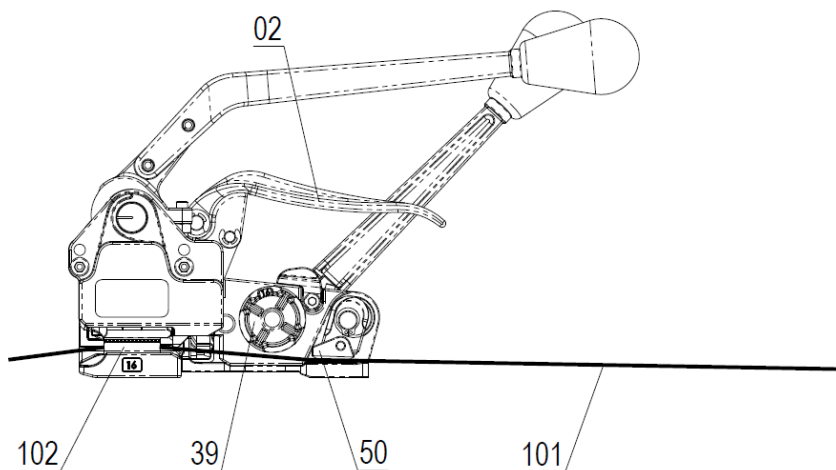

Fig. 3
2. Pull up on **Handle 02** to raise **Gripper Foot 50**. Load bottom strap **101** inside the seal **102**, under **Windlass 39** and under **Gripper Foot 50** as shown on Fig. 3.